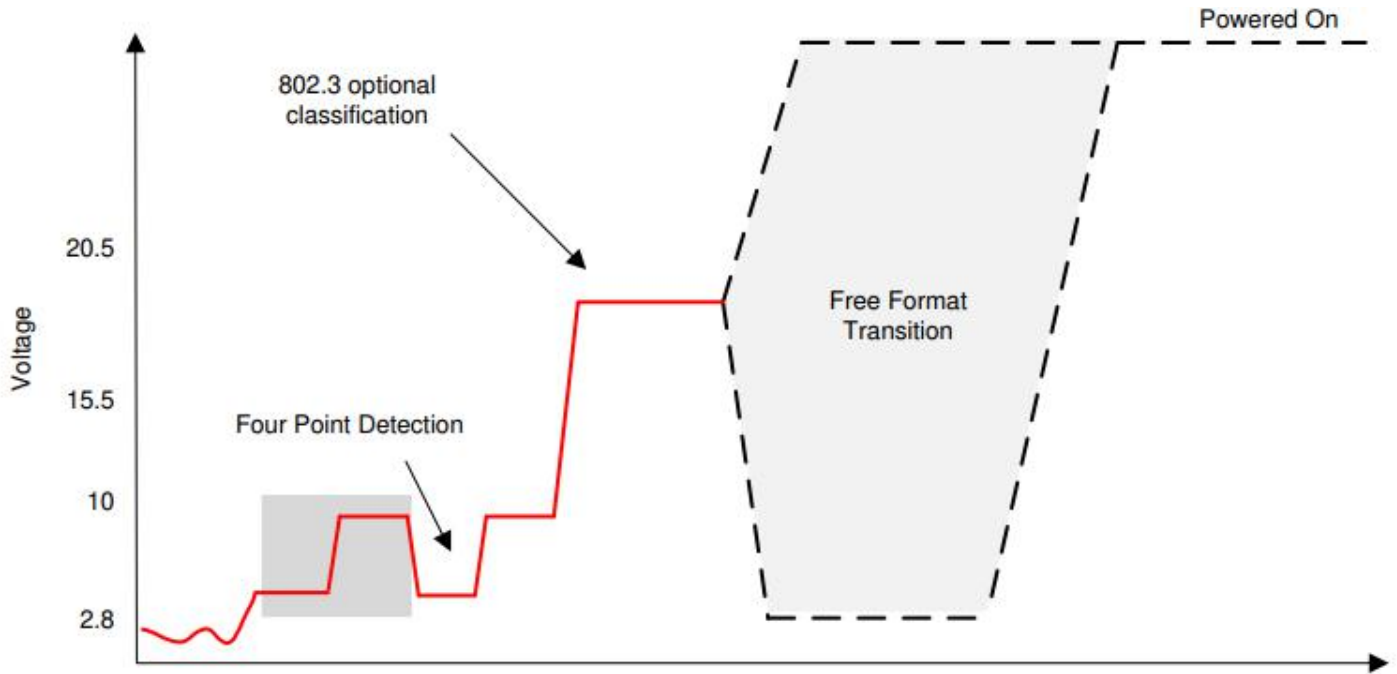
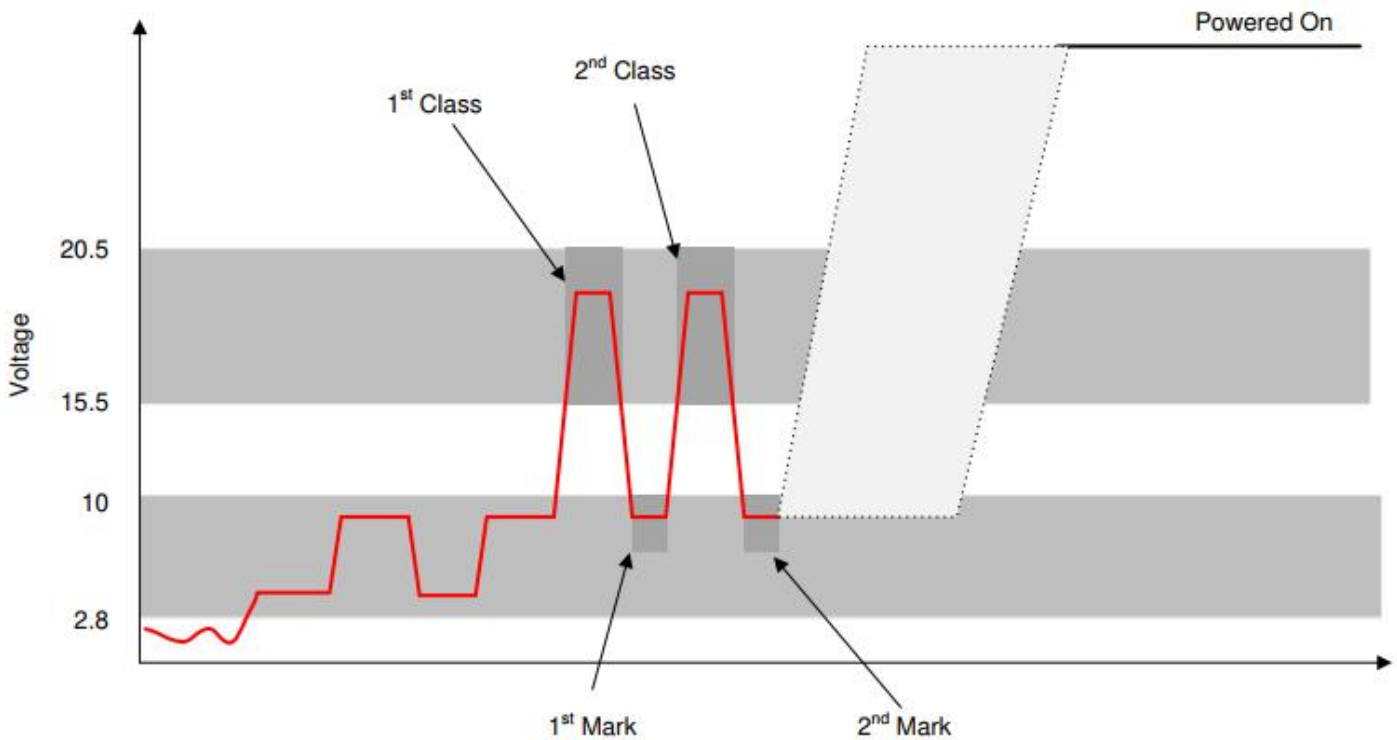

Figure 1. 802.3af with Classification
Figure 2. 802.3at with Classification
The WC-PSE48-48 will automatically perform the Signature and Classification, Figure 1 shows the timing sequence for a Type 1 Powered Device (PD) and Figure 2 shows the timing sequence for a Type 2 PD.